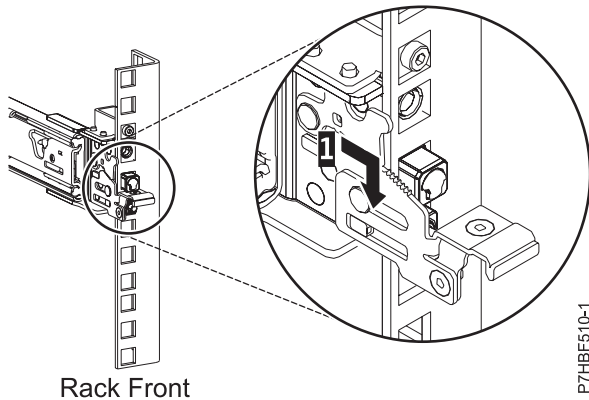

Figure 7. Rack front rail with pins seated
6. Pull the slide rail forward and insert three pins on the front of the rail into the holes within the selected U that were previously marked. Lower the slide rail down (1) to engage the hook feature on the middle pin, as shown in Figure 7 on page 8.